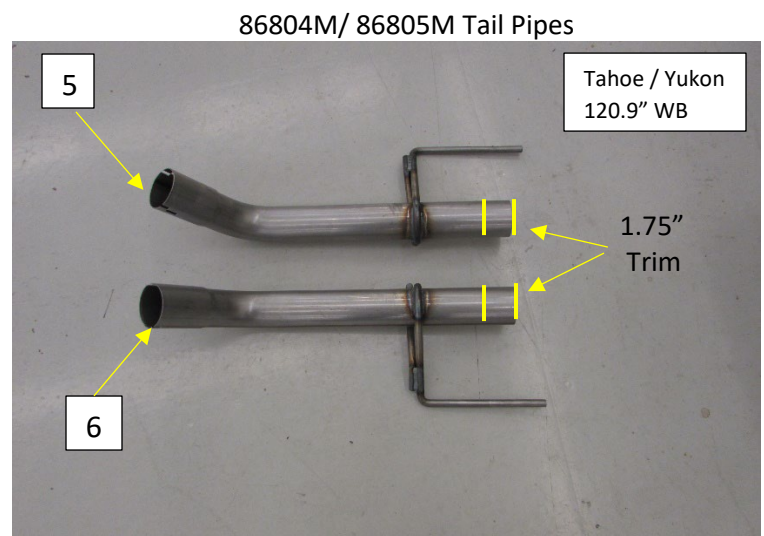

Figure.4
- Right and Left Tail Pipes **(5)(6)** - Trim 1.75" from end of 2.5" pipe. **Fig.4**